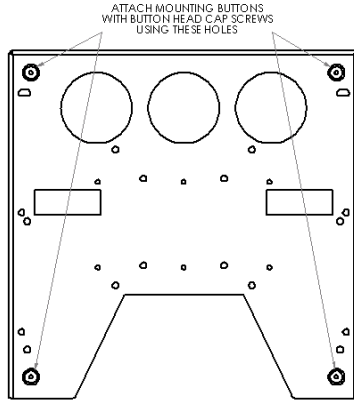
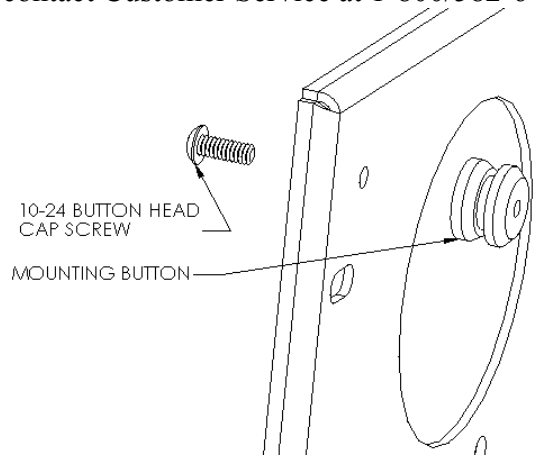

Figure 2
Figure 3
1. Using a 10-24 button head cap screw inserted from back side of bracket, secure mounting button, with chamfered hole of mounting button (larger surface) facing bracket, to bracket (four places) (see Figure 2 & Figure 3).